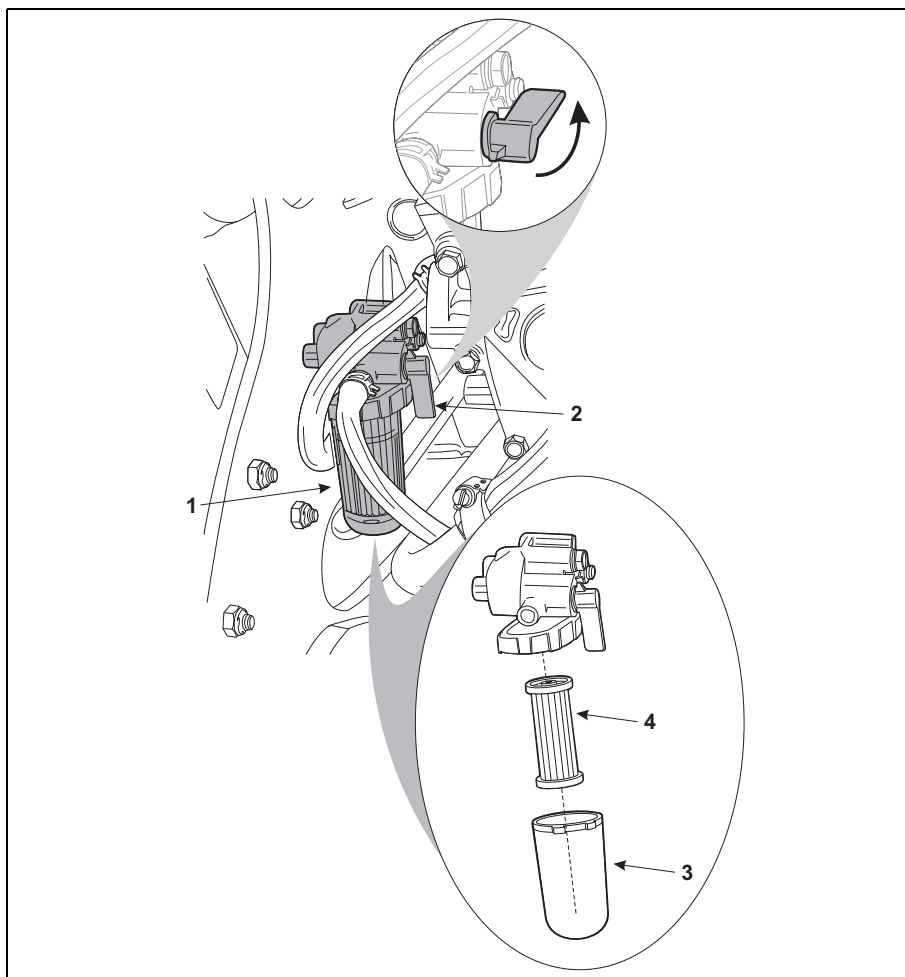

Figure 4-21 Engine Fuel Filter/Water Separator
- a. Rotate the fuel shut off valve (Item 2, Figure 4-21) to stop the fuel flow from the tank.
- c. Rotate the filter bowl (Item 3, Figure 4-21) and remove it from the filter assembly.
- e. Remove the paper filter (Item 4, Figure 4-21) and dispose of according to State and Local regulations.